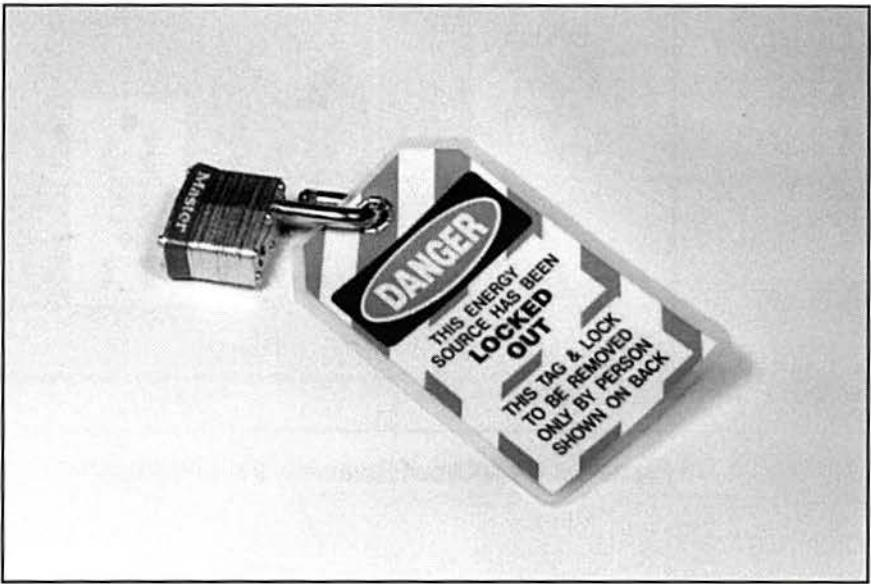

Figure 41. Tagout Tag Placed on Padlock Hasp
E. Open the padlock and slide the tagout tag onto the hasp, as figure 41 shows.